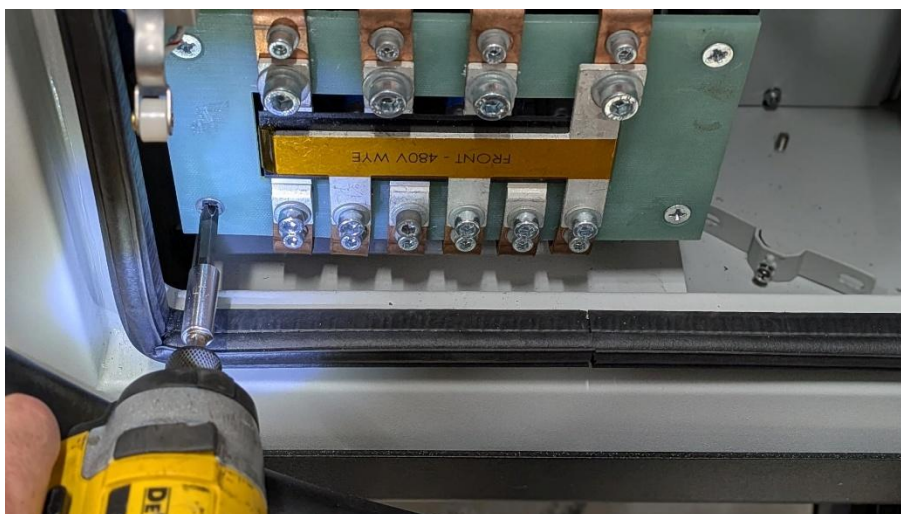

Figure 29
35. Re-install configuration bus bar onto copper conductors (Figure 29).